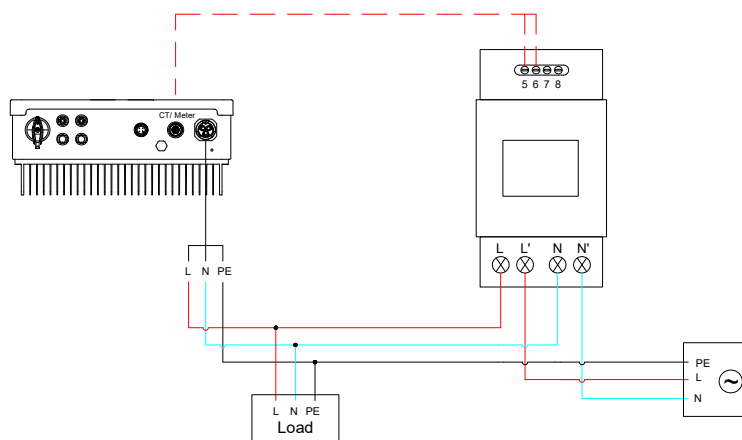
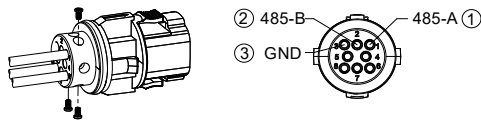

FIG.2 Electrical and Signal Connection Diagram
FIG.5 Pin positions of Connector
3.2.2 Wiring signal cable in meter (as per FIG.2 and FIG.5 to connect meter)
Connect electrical cables as per FIG.2 and following sheet. More detail information, refer to inverter user manual.